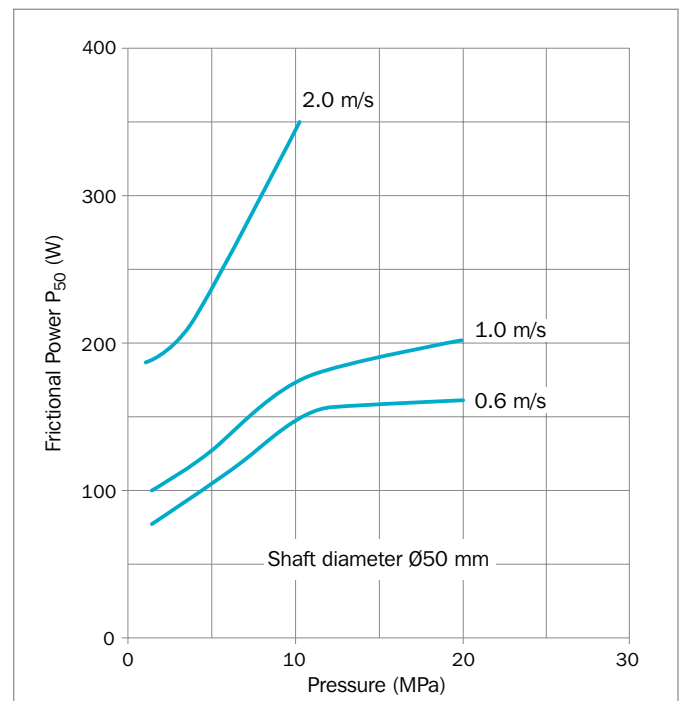

Figure 137: Frictional power for Turcon® Roto Glyd Ring® V in Turcon® M15
Guide values for the frictional power (P) can be determined from the graph in Figure 137.
Find  $P_{50}$  for Turcon® M15 in Figure 137